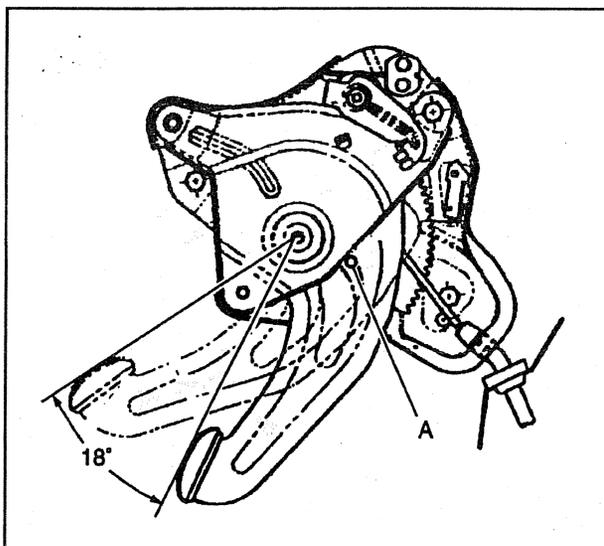

Figure 4—Parking Brake Adjustment Setting
- Insert a 3 mm (.125 in.) pin into locating hole (A) in the pedal assembly (figure 4). Push the pedal downward until the pin contacts the parking brake outer flange.
⌨ Adjust (Figures 4, 5 and 6)
- Insert a 3 mm (.125 in.) pin into locating hole (A) in the pedal assembly (figure 4). Push the pedal down until the pin contacts the parking brake outer flange.